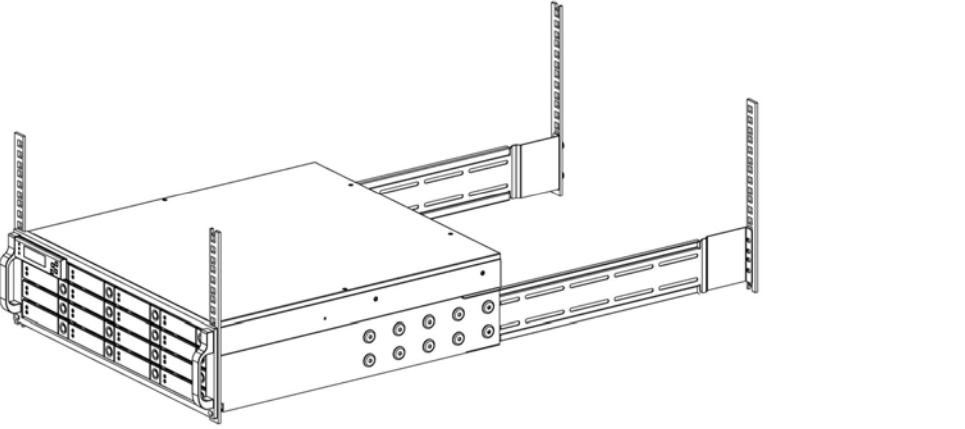

Figure 3.
- 2. Fasten two M5 screws through the chassis ears in the front side of the chassis to secure the Alnico subsystem in the rack as Figure 3.